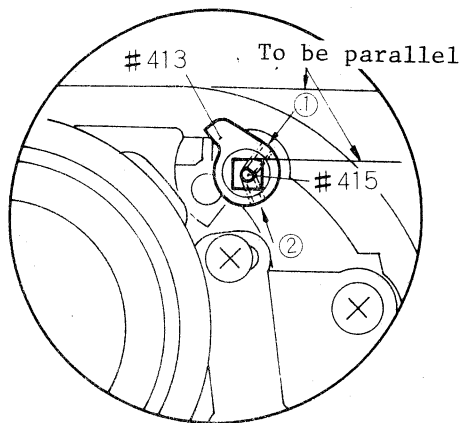

fig. 14-2
- 2) Install FA1-413 and secure with screws as shown in fig. 14-2.
- 3) Tighten screws in the order shown in fig. 14-2 (the side edge of the squared shaft's head parallels the edge of the camera body).